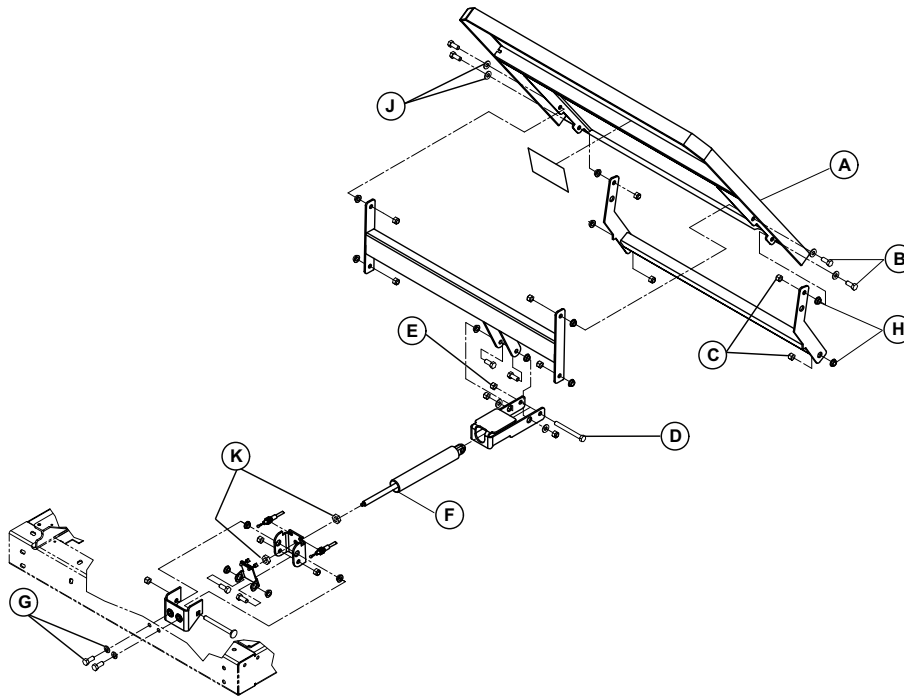

Figure 20 – Head section
4. Using two 1/2" combination wrenches, remove the four locknuts (C), four shoulder spacers (H), four washers (J), and four bolts (B) that secure the head section to the two coupling bars (Figure 20). Remove the head section. Save the locknuts, spacers, washers, and bolts.
4. Using two 1/2" combination wrenches, remove the four locknuts (C), four shoulder spacers (H), four washers (J), and four bolts (B) that secure the head section to the two coupling bars (Figure 20). Remove and save the head section. Save the locknuts, spacers, washers, and bolts.
6. Using two 1/2" combination wrenches, remove the locknut (E) and bolt (D) that secure the cylinder end to the bracket (Figure 20). Save the locknut and bolt.
7. Using a 1/2" combination wrench, remove the two bolts and two washers (G) that secure the cylinder bracket to the litter frame (Figure 20). Save the bolts and washers.
9. Using an 11/16" combination wrench, remove the two nuts (K) that secure the threaded end of the cylinder to the bracket (Figure 20). Remove the pneumatic cylinder. Save the nuts.